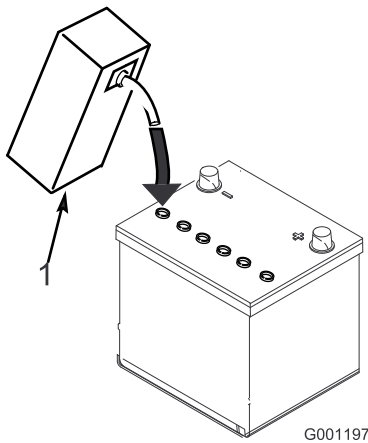

Figure 18
- Allow approximately 20 to 30 minutes for the electrolyte to soak into the plates. Refill as necessary to bring the electrolyte to within about 1/4 inch (6 mm) of the bottom of the fill well (Figure 18).